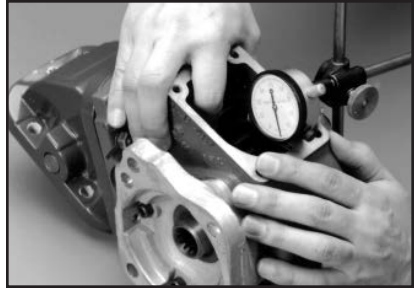

Fig. 8
8. Set the proper backlash between the adapter and PTO. After backlash is set remove PTO from adapter and set aside PTO and gaskets. See page 10 for setting proper backlash (**Fig. 8**).